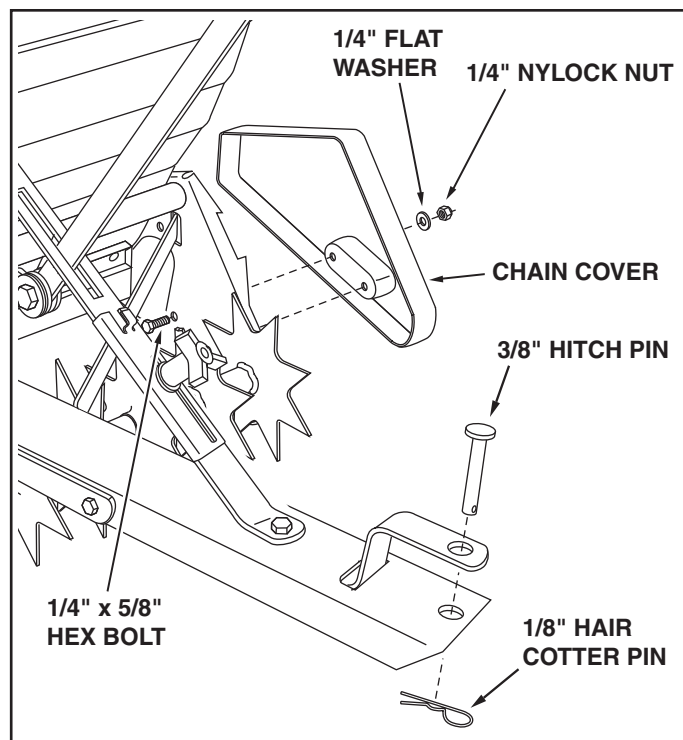

FIGURE 28
45. Assemble the chain cover to the frame assembly using two 1/4" x 5/8" hex bolts, 1/4" flat washers and 1/4" nylock nuts as shown figure 28.
46. Install the hitch pin and the 1/8" hair cotter pin in the spreader hitch bracket and tongue. See figure 28.